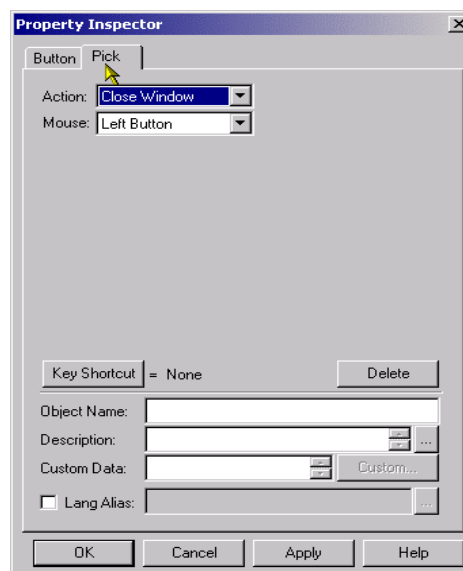

Figure 5.46
11. Finally we will add a **button** using the  button on the **Dynamics** toolbar. Place it just below the Process Point and set the parameters as shown in **Figure 5.46**. Have the button caption, which by default is **BUTTON**, read **Close Window**, since this button will close the Popup Window when clicked.